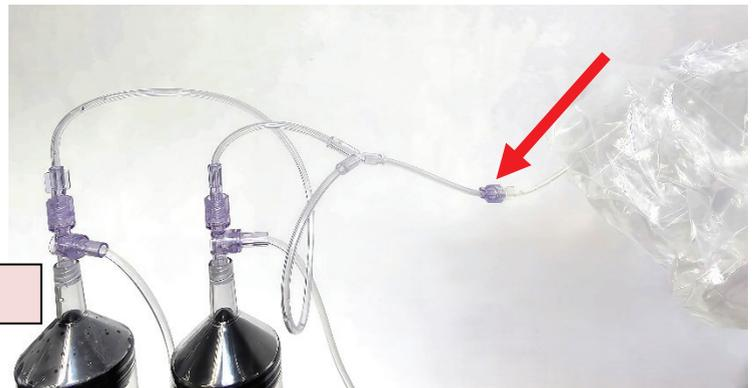

Figure E-1
- Connect high-pressure tubing from HurriChem Device Kit to Transfer Set (**Figure E-1**)